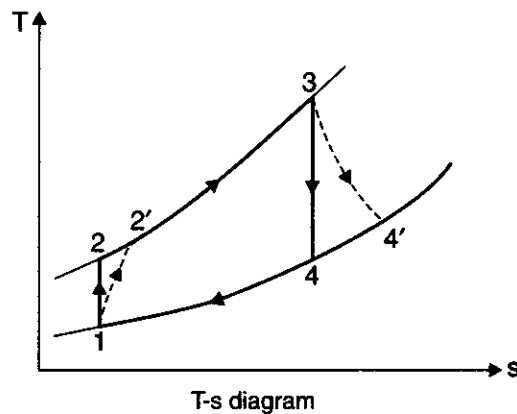

Fig. 13.56
**Solution.** Refer to Fig. 13.56.
The  $T$ - $s$  diagram is shown in Fig. 13.56.